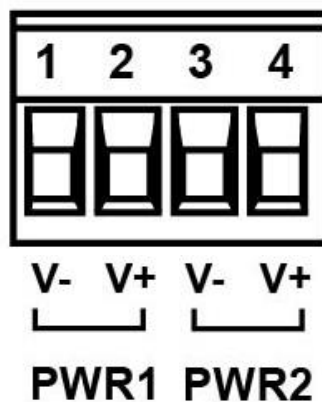

Figure 2.4: Power Terminal Block
- Step 1 Insert the positive and negative wires into the PWR1 (V1+, V1-) and PWR2 (V2+, V2-) contacts on the terminal block connector as shown below in Figure 2.4.